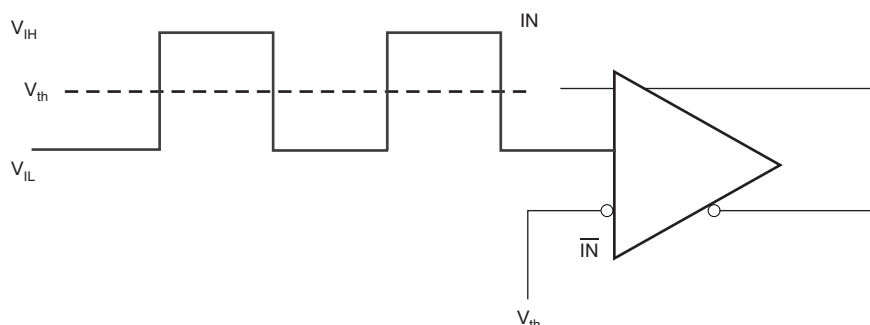
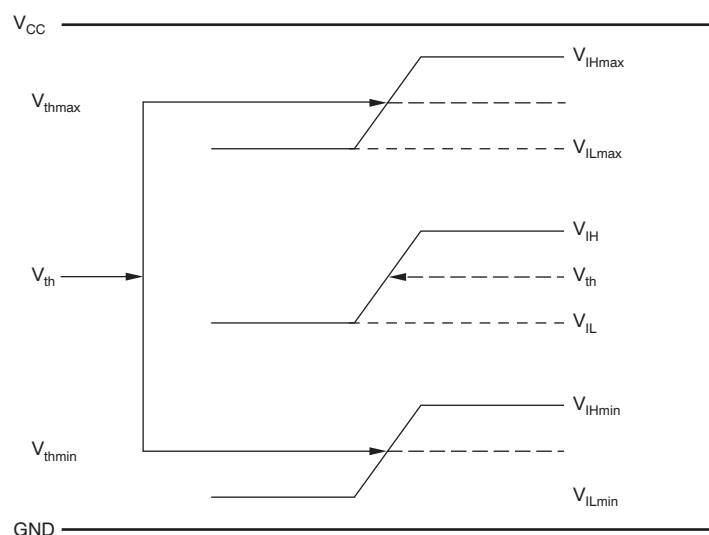
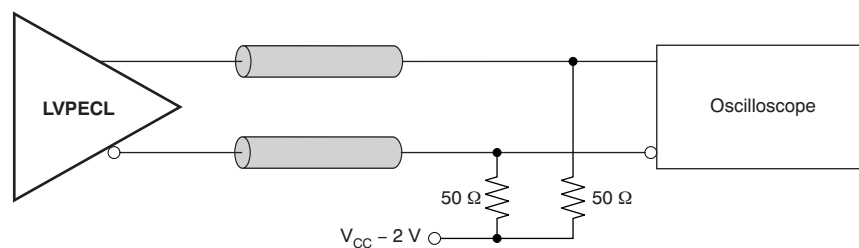
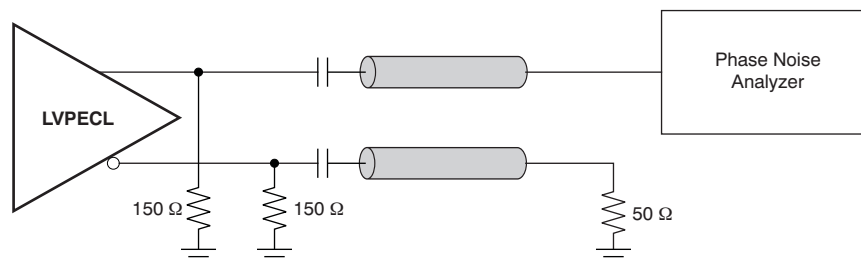

Figure 3. DC-Coupled LVCMOS Input During Device Test
Figure 4. V_{th} Variation over LVCMOS Levels
Figure 8. LVPECL Output DC Configuration During Device Test
Figure 9. LVPECL Output AC Configuration During Device Test
(1) Figure 3 and Figure 4 show dc test setup.
(1) Figure 8 and Figure 9 show dc and ac test setup.
This section describes the function of each block for the CDCLVP1102. Figure 3 through Figure 9 illustrate how the device should be setup for a variety of test configurations.